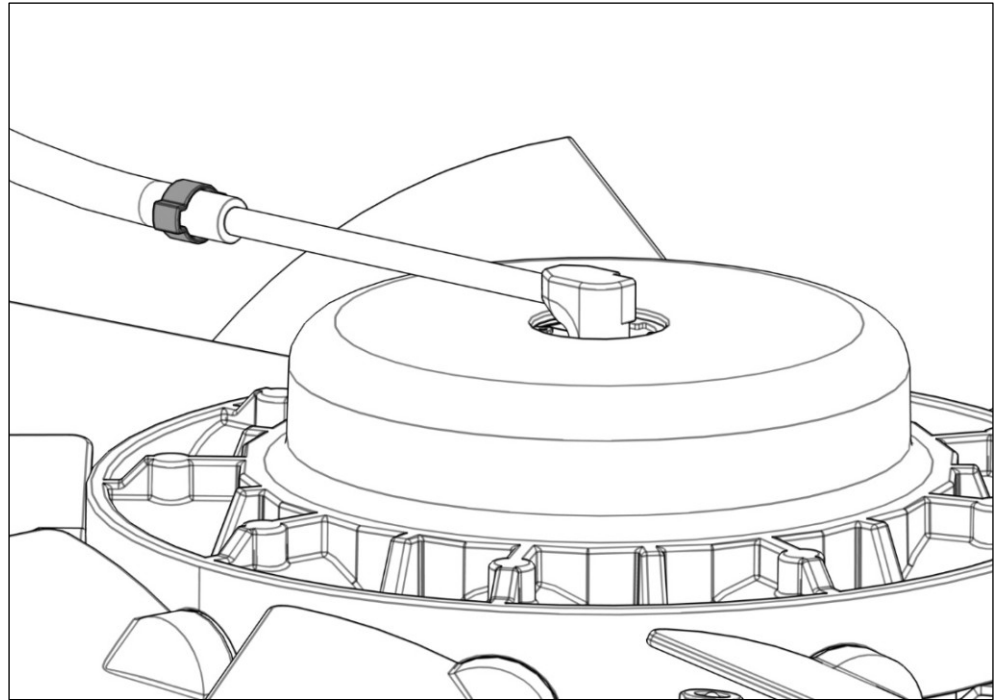

Fig. 13
- 4) Position the hose clamp as shown in Fig. 13.